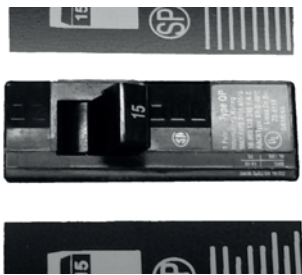

Figure 1
1. Place the circuit breaker to the “off” position (see *Figure 1*).